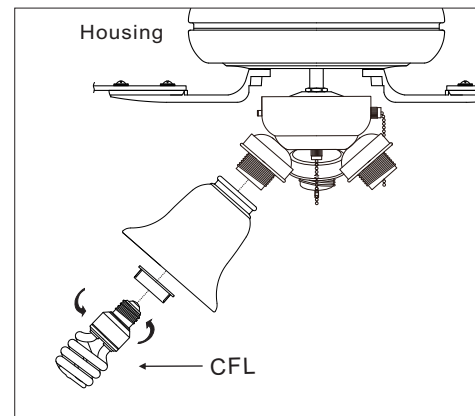

Figure 19
4.To install light kit glass shade, loosen the socket ring on the light kit and install the glass shade to the light kit. Secure by tightening the socket ring previously loosened . (Figure 19)